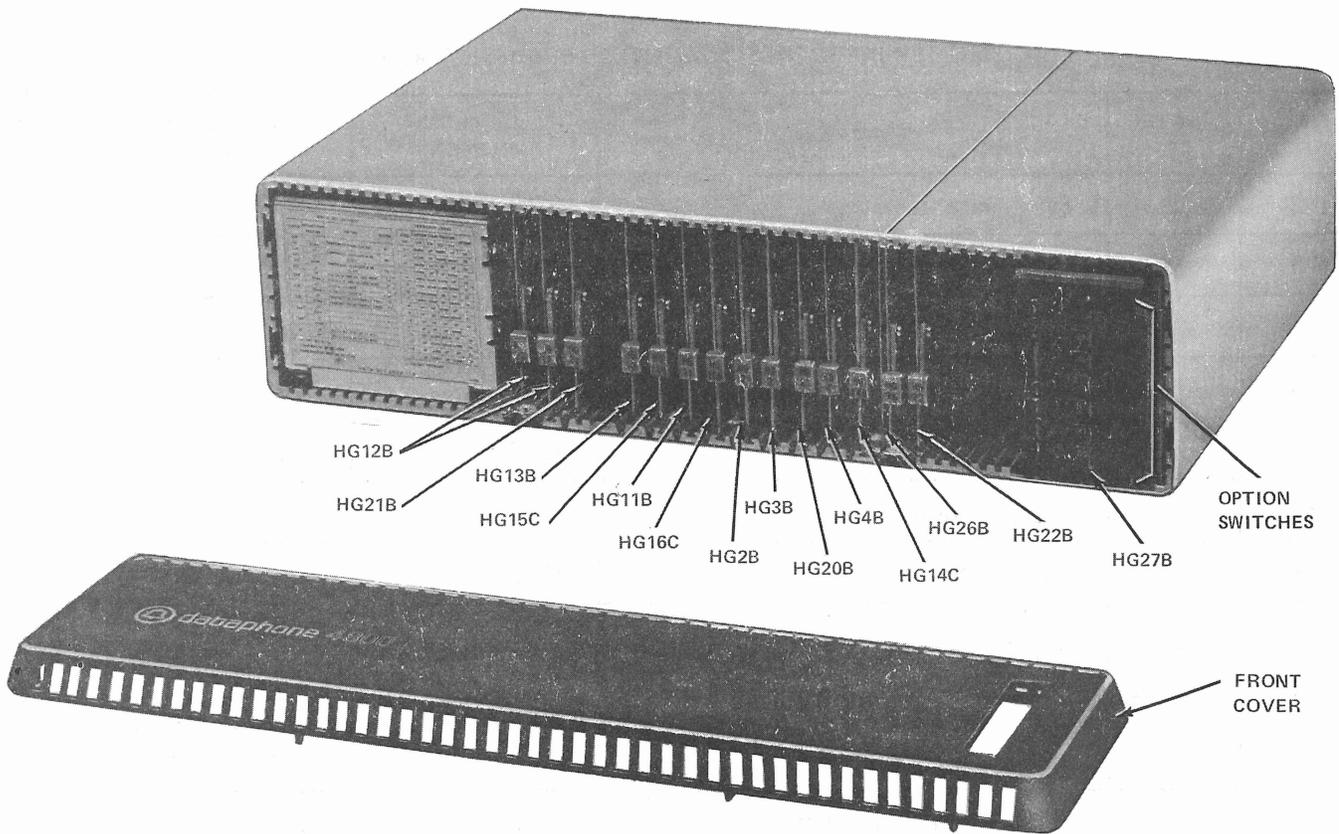

Fig. 2—Data Set 208BR-L1C—Front View With Cover Removed
2.01 DS 208BR-L1C is provided with a number of options which must be installed prior to placing the data set in service. To gain access to the option switch panel and to the circuit packs, remove the front cover (Fig. 2) by gently squeezing it on top and bottom and pulling forward. To replace the cover, position it properly, gently squeeze it at top and bottom, and push it into place. The options should be installed as specified on the service order or circuit layout record card (CLRC) in accordance with Fig. 3 and Tables B, and C, or the option label (form E-6696).